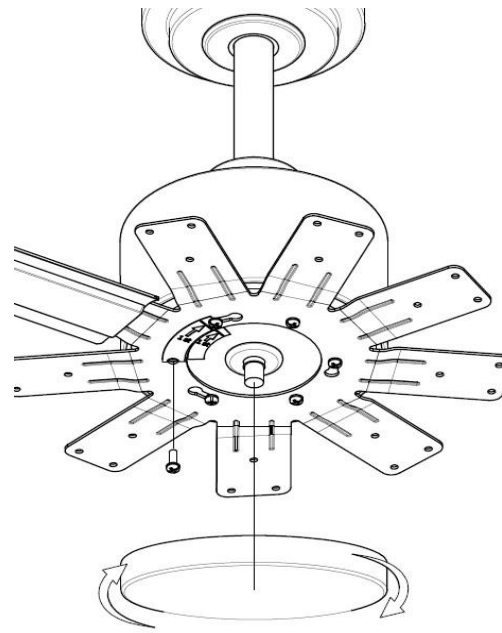

Fig. 18
- Finally install the bottom cover to the shaft of the motor by rotating it clockwise (Fig.18).